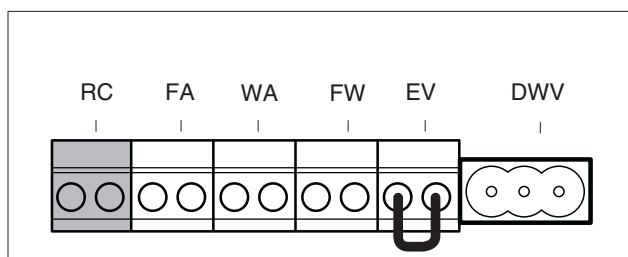

fig. 45 Terminal strip - Room controller RC and EMS bus (connection colour orange)
- Connect a Logamatic RC20 or RC30 room controller or a Logamatic 4121 or 4122 cascade controller to the orange RC terminal (fig. 45) using a 2-core cable of 0.75 mm².